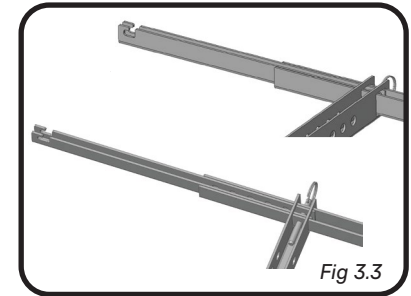

Fig 3.3
5. Place a long quick-release pin (F) through each of the four holes on the width adjusters where they align with the length adjusters. Each pin should be holding three parts (length adjuster, wide width adjuster, short or long width adjuster) in place. (Fig 3.3)